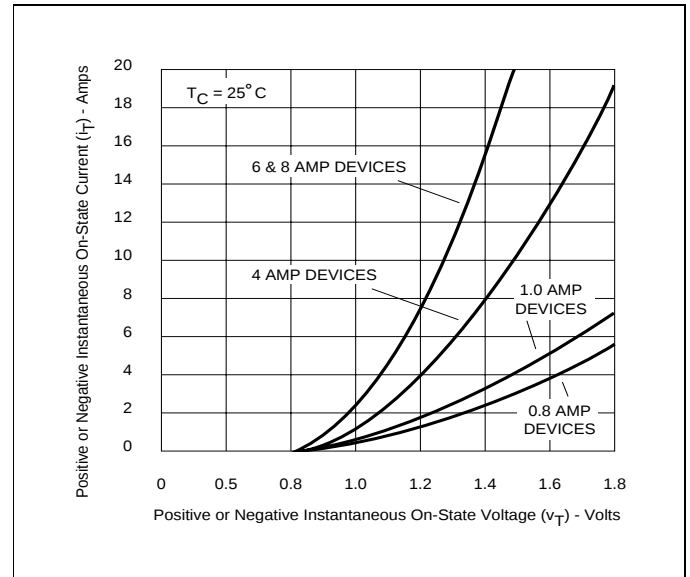

Figure 1.4 On-State Current vs On-State Voltage (Typical)
- (1) For either polarity of MT2 with reference to MT1 terminal.
- (2) For either polarity of gate voltage V_{GT} with reference to MT1 terminal.
- (3) See definition of quadrants and gate characteristics.
- (4) See Figure 1.4 for i_T vs v_T .